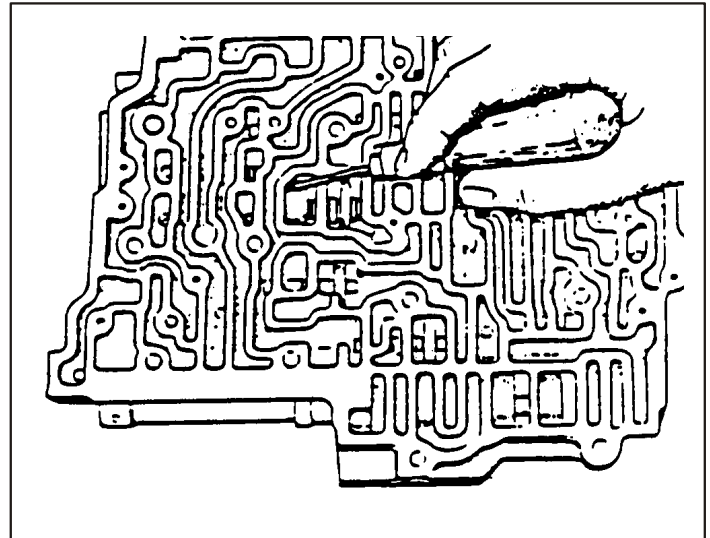

Figure 1
5. Inspect the casting and fluid passages for foreign material that may have accumulated in pockets. Remove all foreign material with a small screwdriver or an awl. (Refer to Figure 1).